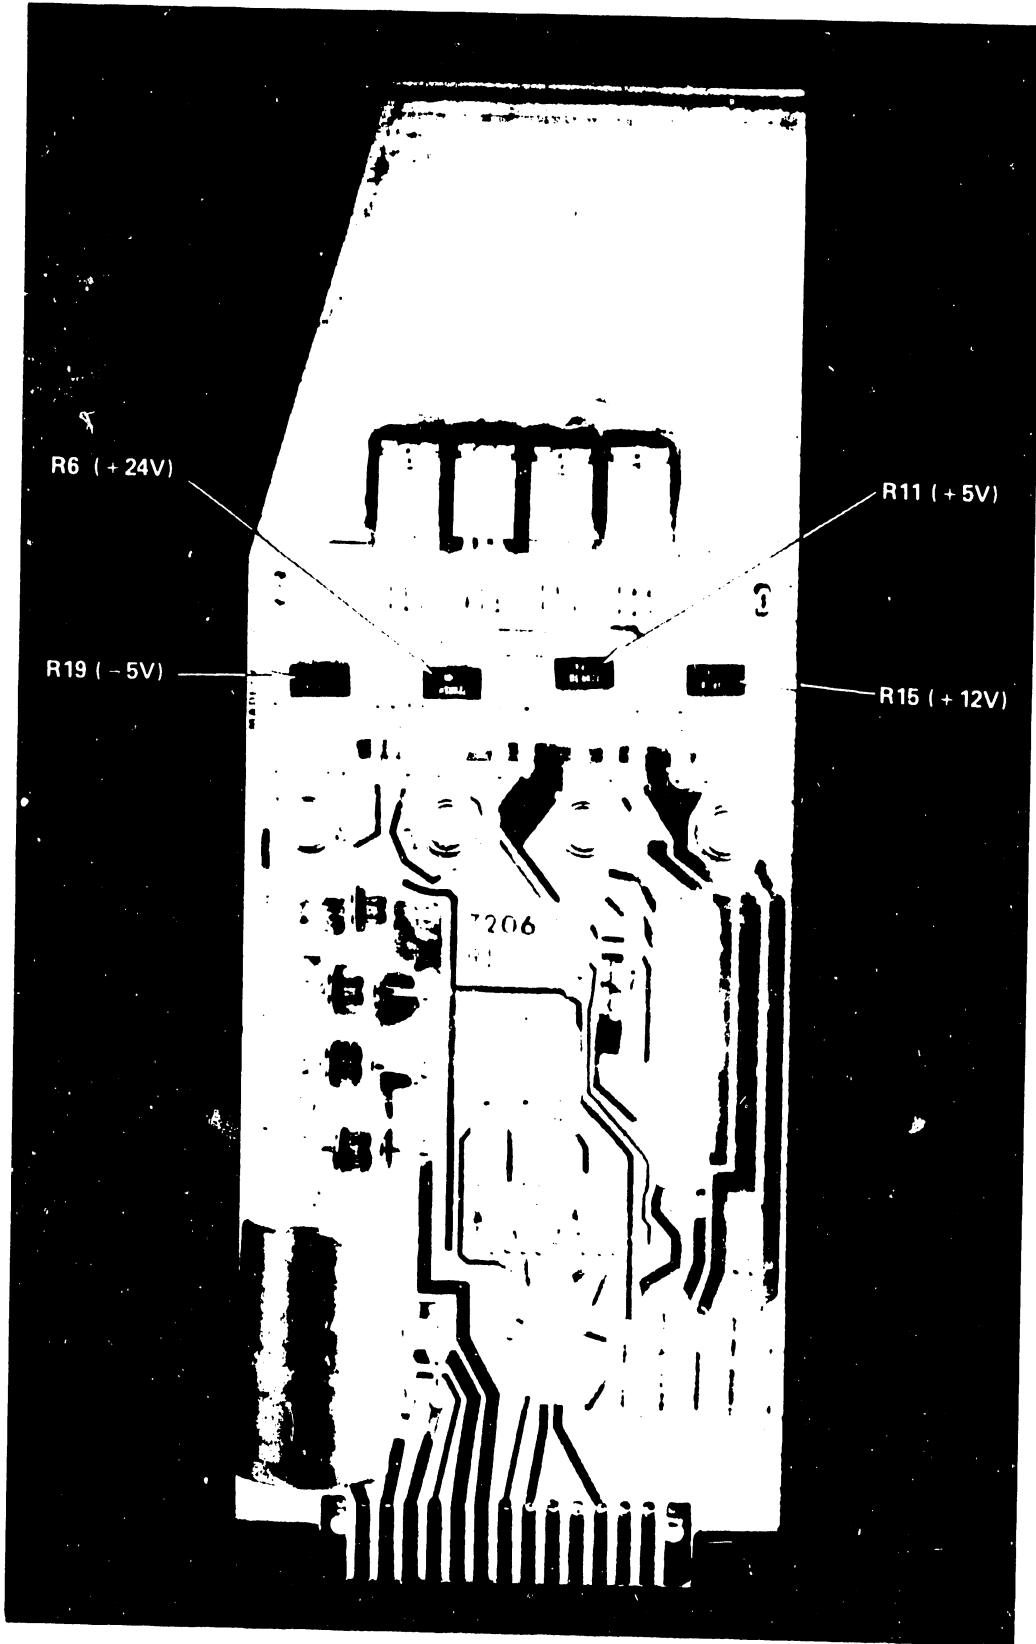

FIGURE 2-1 7206-MASTER CPU POWER REG PCB
+24 Volts Regulated is produced by the power supply for use with the system disks. When this voltage is shut down by the power-off circuit, it inhibits any READ/WRITE operations from taking place on the system disk. The test points for checking and adjusting the operating voltages are listed below. Figure 2-1 indicates the location for adjusting the voltages on the 7206 board.
- c) Remove Master cover. Check voltages as shown in Figure 2-1.